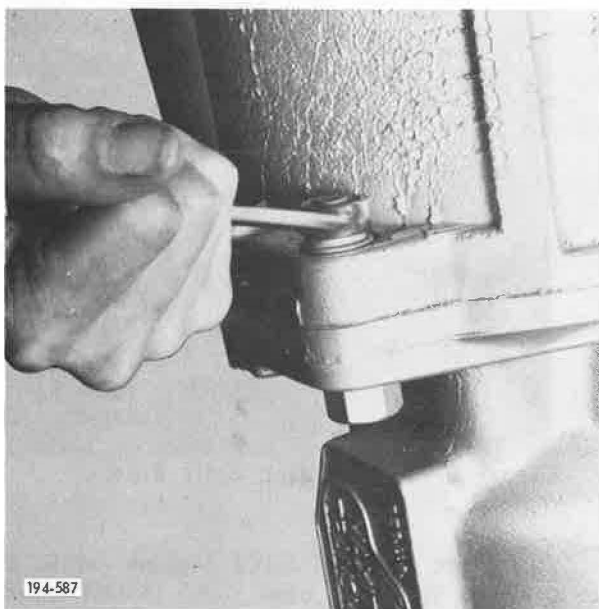

Figure 5-972. Installing Dowel Bolt
3. Install front case to rear case capscrews and dowel bolts and nuts. Tighten to recommended torque. See Figures 5-972 and 5-973. Refer to Torque and Tolerance Table, Items 9 and 10.